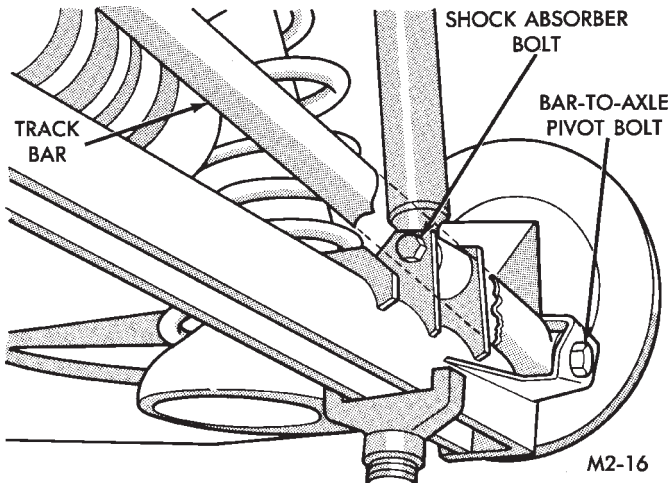

Fig. 6 Install Shock Absorber and Track Bar Fasteners (Bolts)
(4) Raise axle and install shock absorber and track bar through bolts **loose assemble only** (Fig. 6).
(5) Install brake assembly as follows: